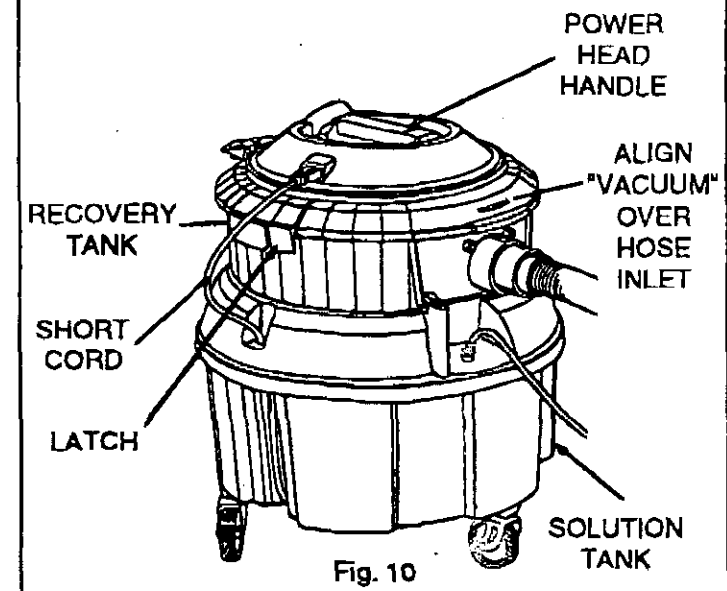

Fig. 10
See Figure 10
9. Reassemble cleaner and resume cleaning. NOTE: Power Head is designed to go on in only one position. Make sure the word "VACUUM" on the Power Head is lined up directly over the Hose Inlet on Recovery Tank as shown in Fig. 10 or Power Head will not seal to unit properly.
6. Replace Power Head on unit, aligning the word "VACUUM" with Hose Inlet on Recovery Tank as shown in Fig. 10. **NOTE:** Be careful not to crush Dust Bag or to deform flexible splash plate on Power Head when assembling.